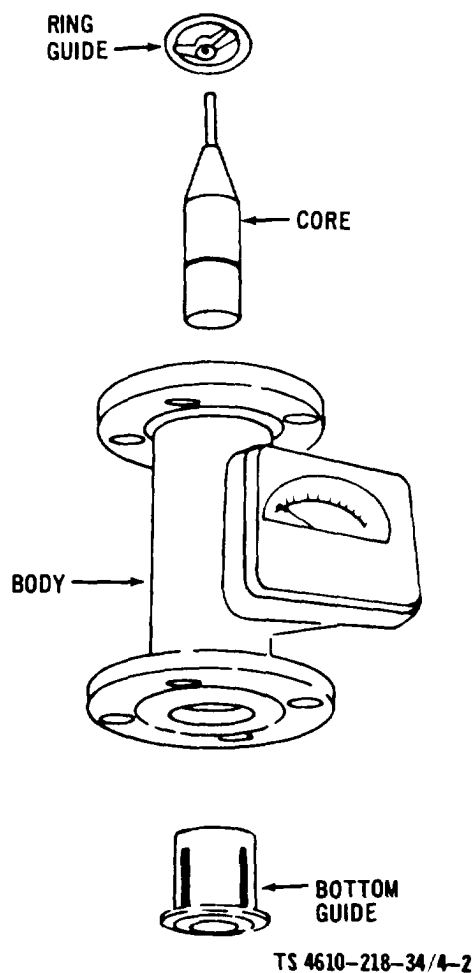

Figure 4-2. Raw Water Flow Indicator, Disassembly and Reassembly
c. Disassembly. Disassemble the raw water flow indicator as illustrated in figure 4-2.
(1) Clean all metal parts with dry cleaning solvent P-D-680.
(2) Clean the glass cover with a soft clean cloth and water.
(3) Inspect the head and case for cracks and damage.
(4) Inspect the scale plate and cover for scratches and discoloration.
(5) Repair or replace all damaged or defective parts.
e. Reassembly. Reassembly of the raw water flow indicator is the reverse of the disassembly procedure as described in figure 4-2.